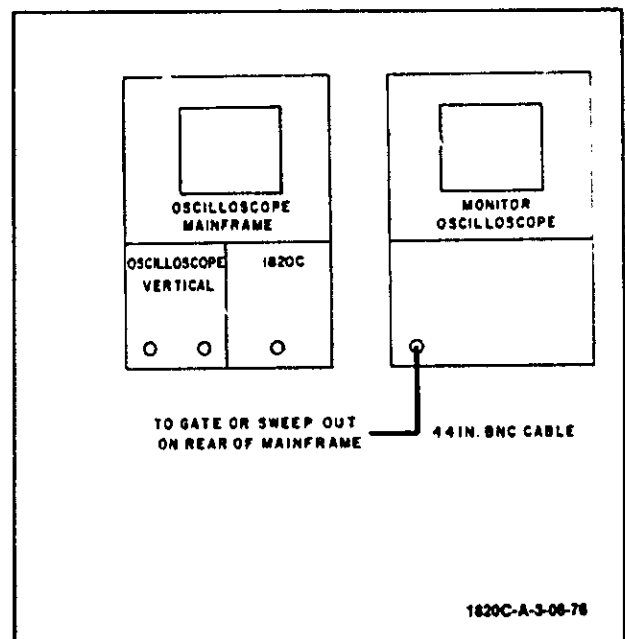

Figure 5-4. Rear Panel Outputs Test Setup
5-42. EQUIPMENT. See figure 5-4 for equipment required.
- a. Connect equipment as shown in figure 5-4.
5-47. EQUIPMENT. See figure 5-4 for equipment required.